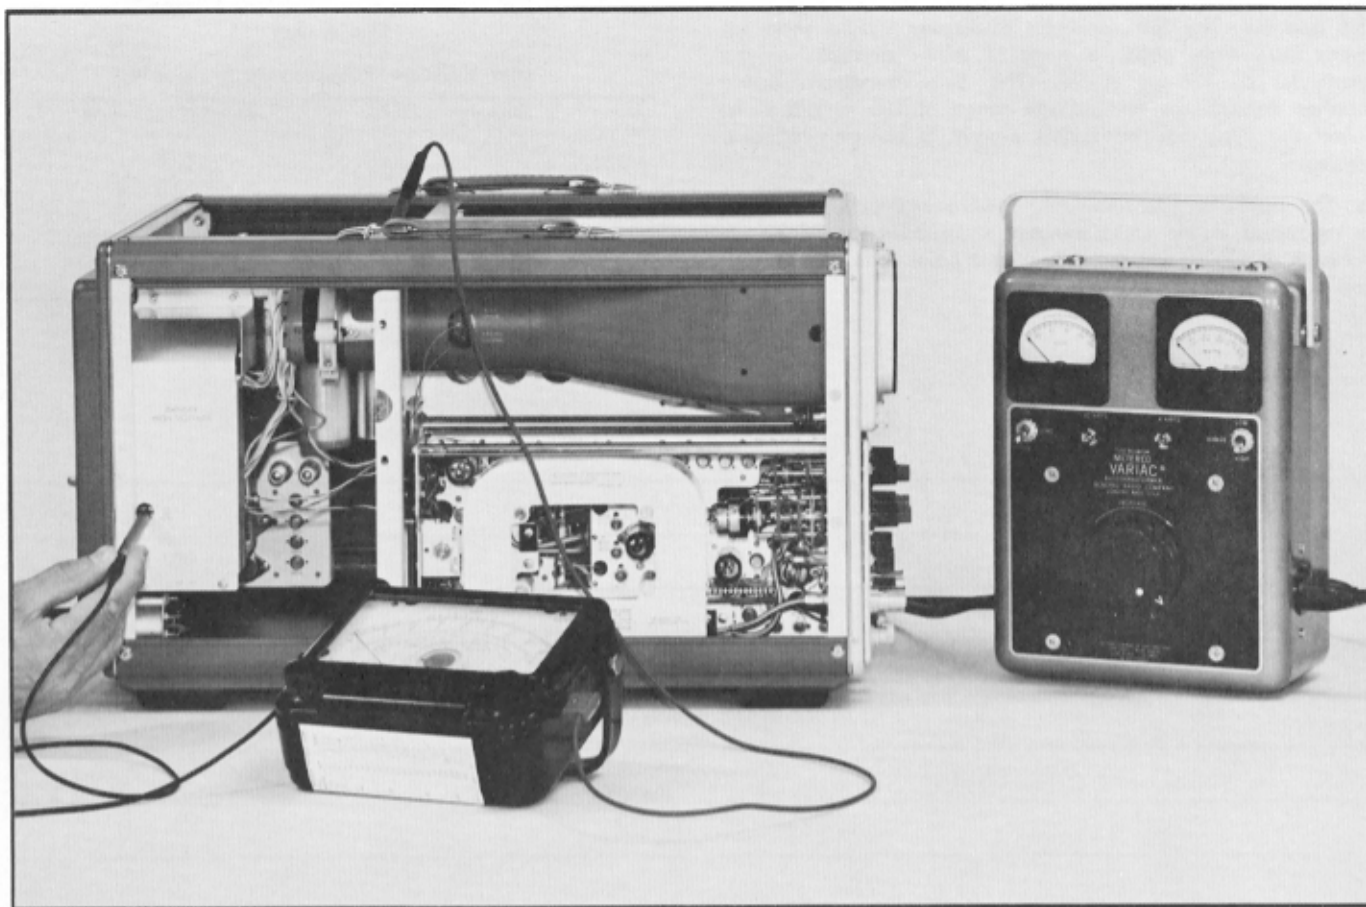

Fig. 5-8. High-voltage power supply test setup, step 7.
b. Turn the Type 567 INTENSITY control fully clockwise. (There will be no spot if controls are set as called out for Fig 5-8.) Watch the voltmeter while slowly changing the variable autotransformer through the range of 105 to 125 volts (210 to 250 volts). The high voltage should not change more than 4% from the value noted in the preceding paragraph.